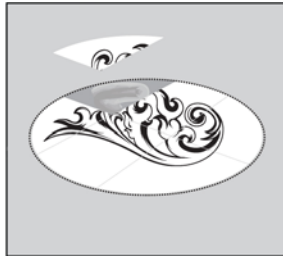

Figure 6: Layout material
4. Remove the contents of the sealer kit from the shipping carton. Install the sealer cartridges into the sealer gun. Point the gun upwards (nose up), and remove the nose plug. *See Figure 5*. With the gun still pointing upwards, mount the mixing nozzle and ensure that it is properly secured to the sealer cartridge. *See Figure 6*. Point the gun downward and squeeze the handle gently until the sealer is approximately 2 in. from the tip of the mixing nozzle. If circumstances do not permit the mixed sealer to be used within 10 minutes remove the mixing nozzle and insert a new nose plug.